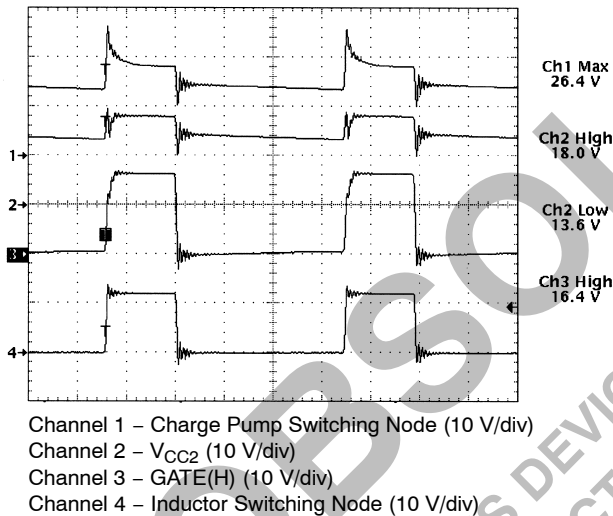

Figure 9. VCC2 Charge Pump Operation (1.0 μs/div)
In order to fully turn on the high side NFET, a voltage greater than the input voltage must be applied to VCC2 to bias the GATE(H) driver. Referring to the application diagram on page 2; a simple charge pump circuit can be implemented for this purpose through capacitor C6, resistor R1, and diodes D1 and D2. The input voltage, less the drop in D1 is stored in C6 during the off-time period. When the high-side FET turns on, it drives the inductor switching node and C6 high causing Schottky diode D1 to reverse bias. The charge stored in C6 is transferred to VCC2 through R1. Zener diode D2 clamps the VCC2 voltage to 18 V to prevent the VCC2 from exceeding its 20 V Max rating (see Figure 9).